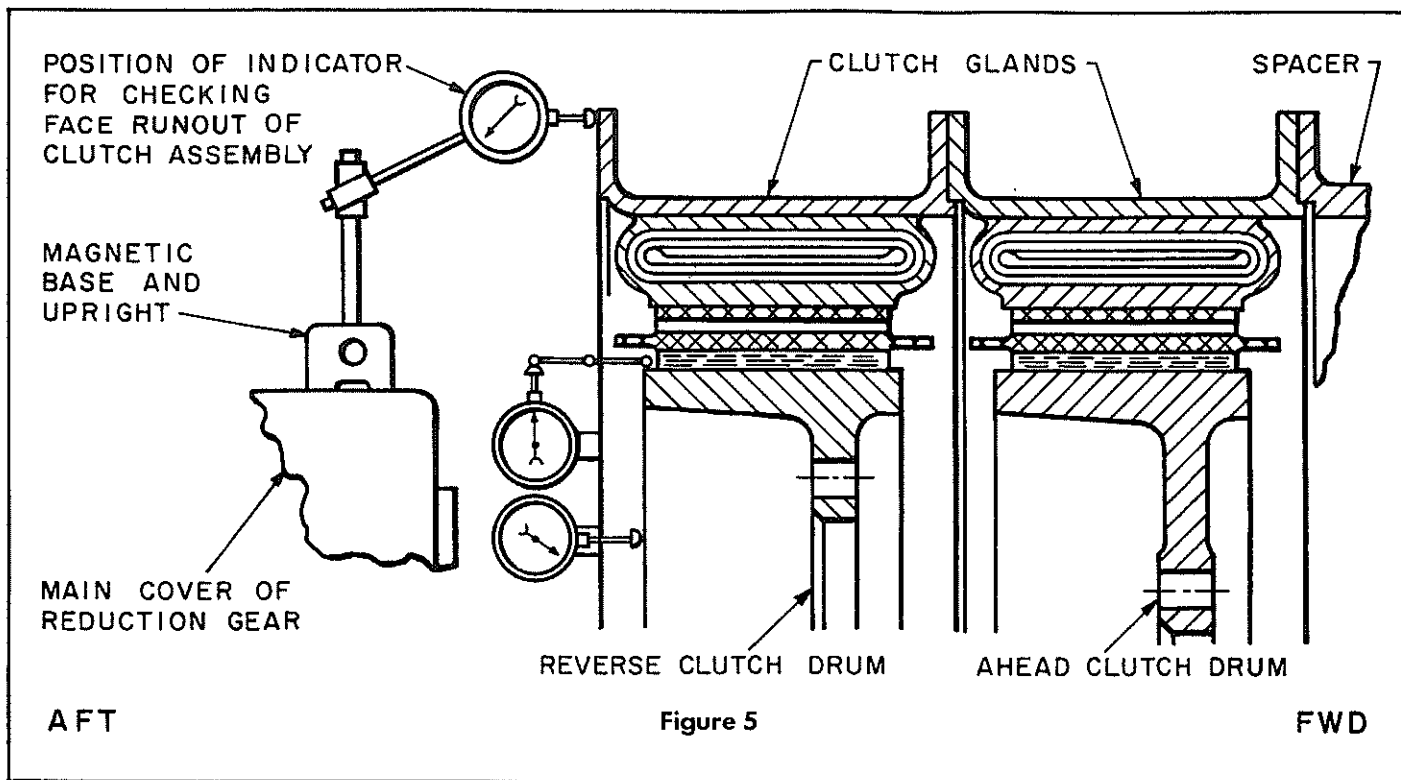

Figure 5
3. Assemble clutch glands and spacer to driving disc. Mount a dial indicator on some fixed point on the gear case so that it will run on the flange face of the clutch. See Figure 5. Rotate the clutch glands and check the face runout of clutch assembly. The maximum total indicator reading should not exceed .020" for the 26", 30" and 35" clutches, and .025" for the 40" and 48" clutches. If this dimension is exceeded, remove and disassemble glands, spacer,